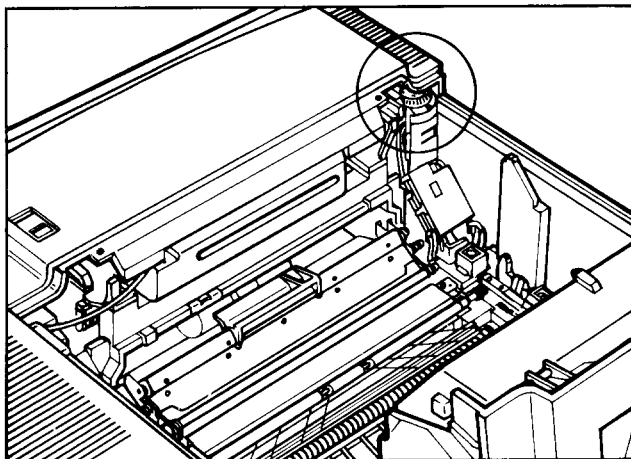

Fig. 10-11
- At the left front you will see a green knurled dial (Fig. 10-11), bearing the odd numbers 1 through 9.